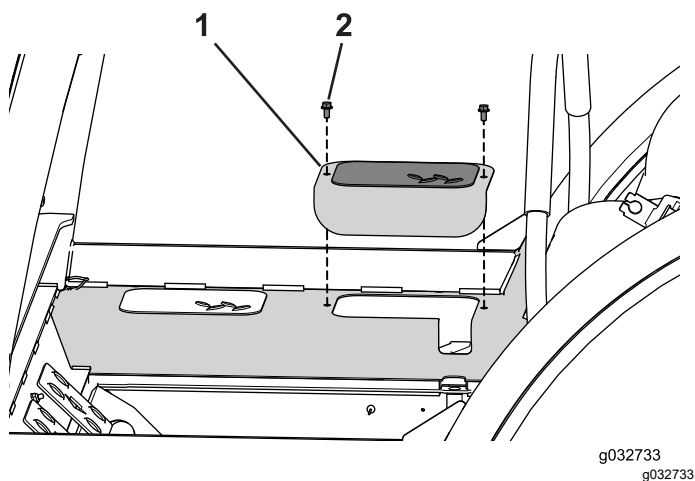

Figure 112
2. Remove the 2 bolts securing the access cover on each side of the machine (Figure 112).